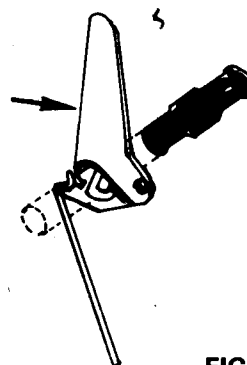

FIGURE 29
- Position the clutch handle so that it is all the way up. See Figure 29. Tighten the Tractor Clutch Rod in the rod adapter with the setscrew.